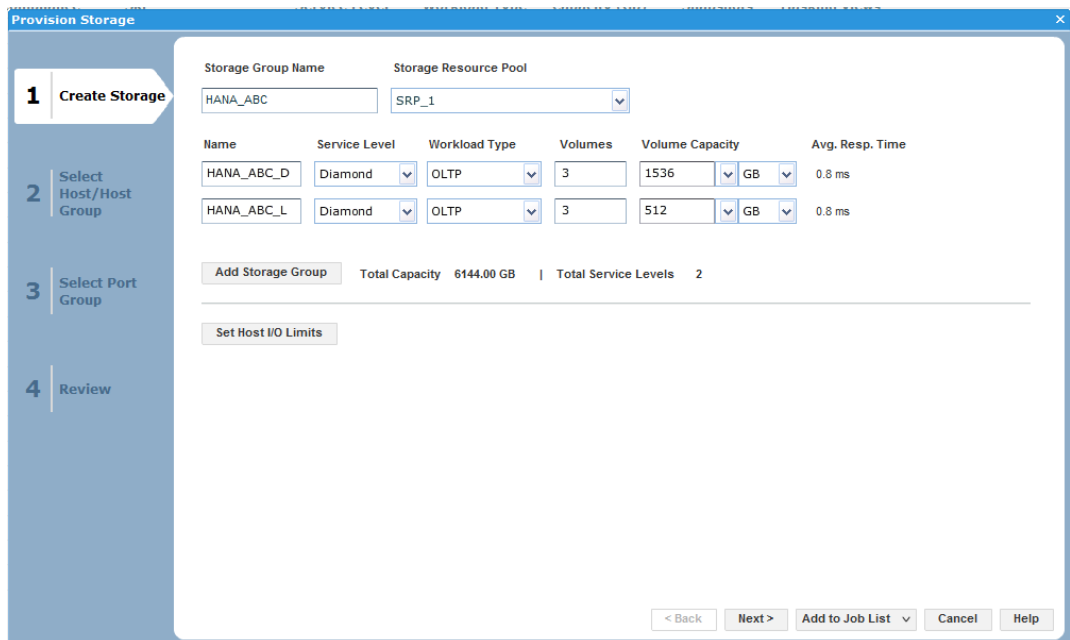

Figure 7. Creating a new storage group
3. Click **Create Storage** to create a new storage group for our SAP HANA cluster, as shown in Figure 7.